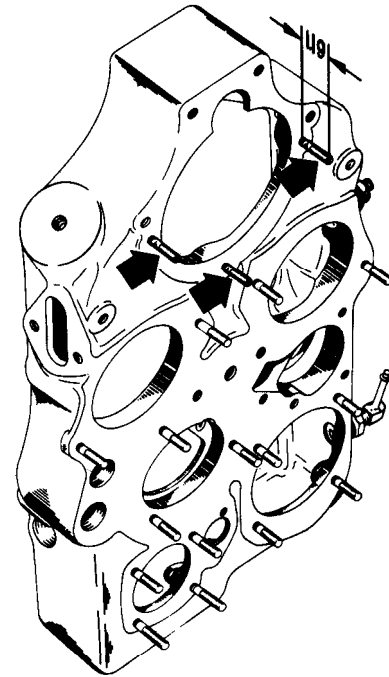

Fig. 1
I. ACCESSORY CASE MODIFICATION (Fig.1)